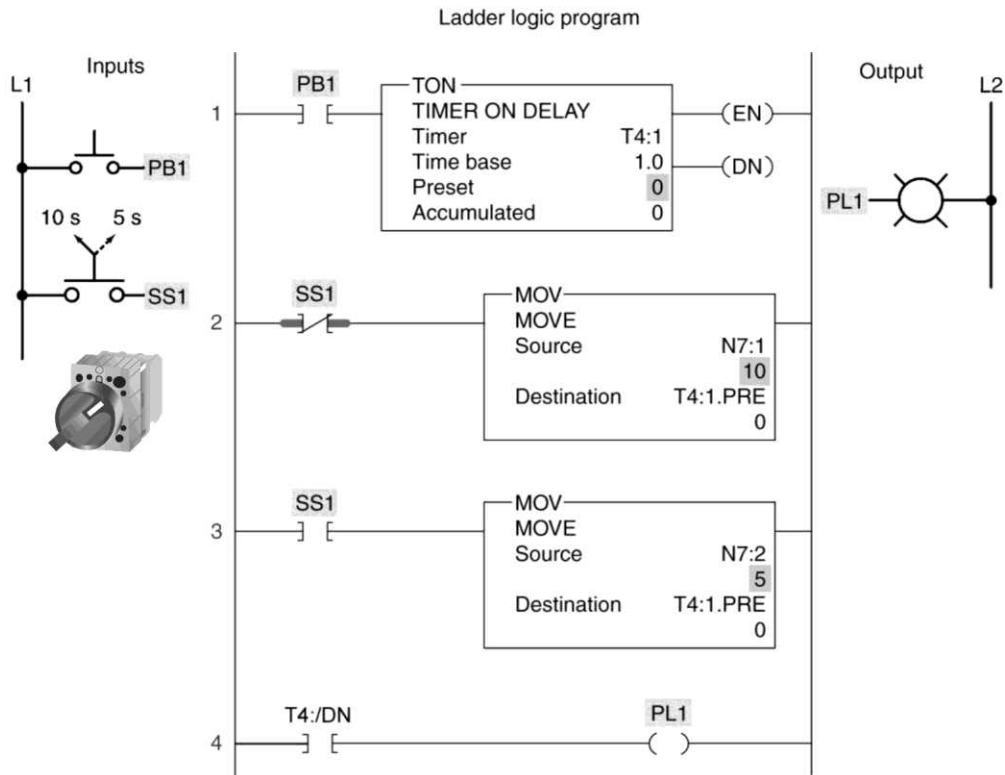

Figure 10-25 Timer data transfer program for assignment 1.
1) The timer data transfer program of Figure 10-25 is described in the text. Prepare an I/O connection diagram and ladder logic program that will simulate its operation. Use addresses that apply to your PLC installation. Enter the program into the PLC, and verify its operation.